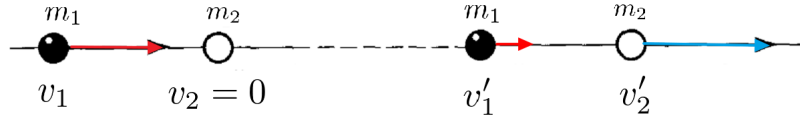

Figure 8.1: A one-dimensional (head on) collision between two objects.
Suppose we want to study a collision in one dimension in which (Fig. 8.1):
- Several (at least eleven) ice cubes with the same mass. For each run, one of the cubes will act as the **target** and another one as the **incident** particle. One other cube is only used to lubricate the surface to have less friction. In Fig. 8.1 the left object is the incident particle and the right one is the target.